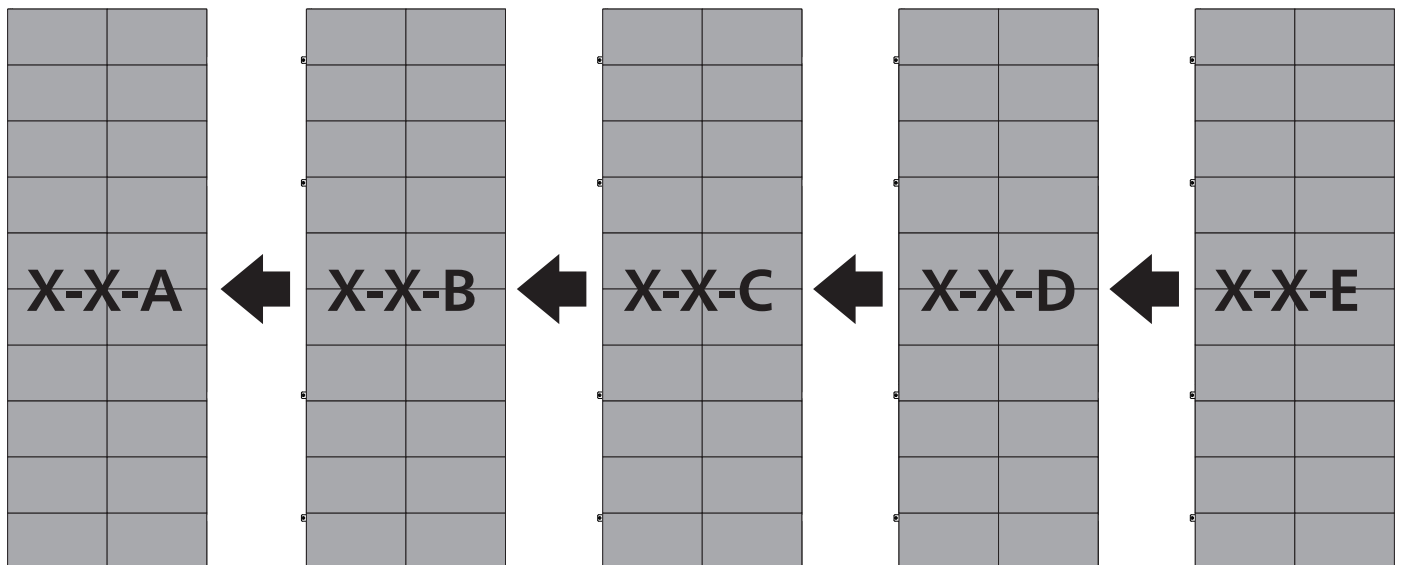

Figure 9 Cabinet Installation Sequence (Front View)
6. In the order of A->B->C->D->E, the adjacent cabinets are assembled using positioning posts and magnetic suction, and suspended from left to right, as shown in Figure 9.